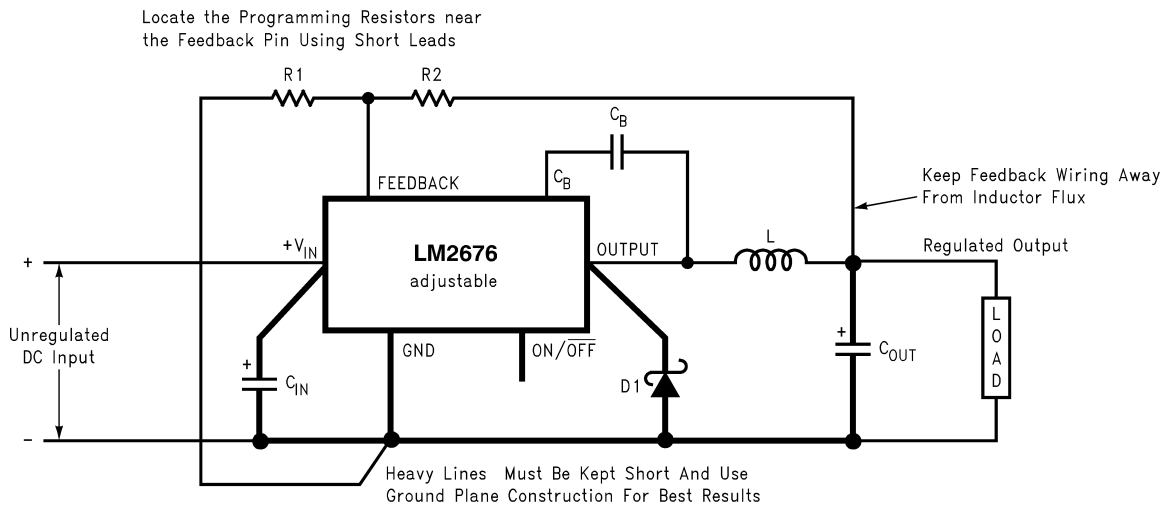

Figure 20. Basic Circuit for Adjustable Output Voltage Applications
Step 2: Select an LM2676S-ADJ. To set the output voltage to 14.9V two resistors need to be chosen (R1 and R2 in Figure 20). For the adjustable device the output voltage is set by the following relationship: